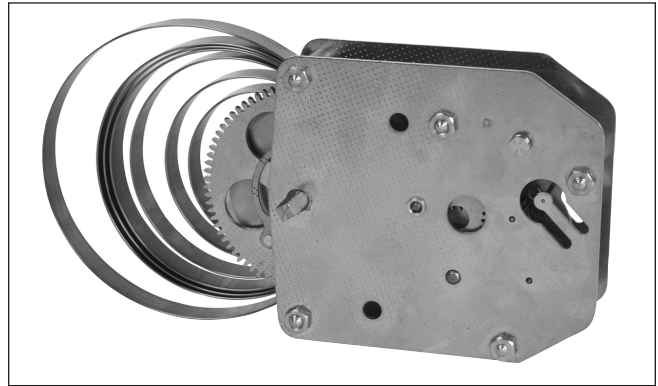

Figure 1: Clock as shipped, coils of spring loose.
- 4) Replace clock mechanism (Figures 1, 2 and 3).